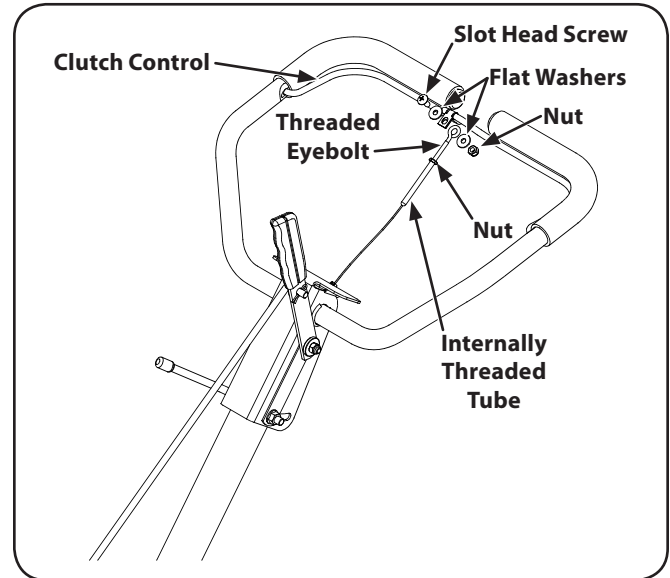

Figure 3-4
4. Remove the slot head screw, nut, and two flat washers from the clutch bail. See Fig. 3-4.
6. Thread the eyebolt and nut removed earlier into the internally threaded tube at the end of the cable. Thread engagement should be about  $\frac{3}{4}$ ". Tighten the nut against the tube at the end of the cable. See Fig. 3-4.